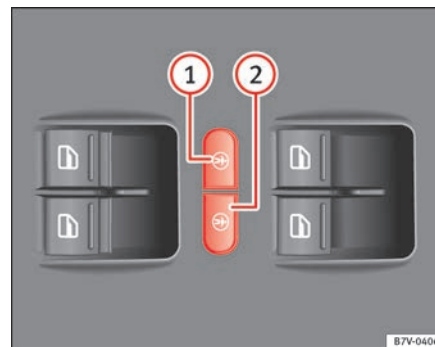

Fig. 52 In the driver door: electric child safety locks buttons.
The electric child safety lock avoids opening and locking of the sliding door and its electric windows from the inside so that children cannot accidentally open the door while the vehicle is being driven. Using the left-hand side ⇒ fig. 52 ① or right-hand side ② button, the child safety lock is activated on the left hand side or right-hand side respectively.
To switch system on:	Press the button ⇒ fig. 52 ① o ②.